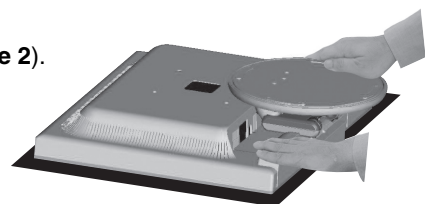

Figure 1
1. Place monitor face down on a non-abrasive surface (**Figure 1**).